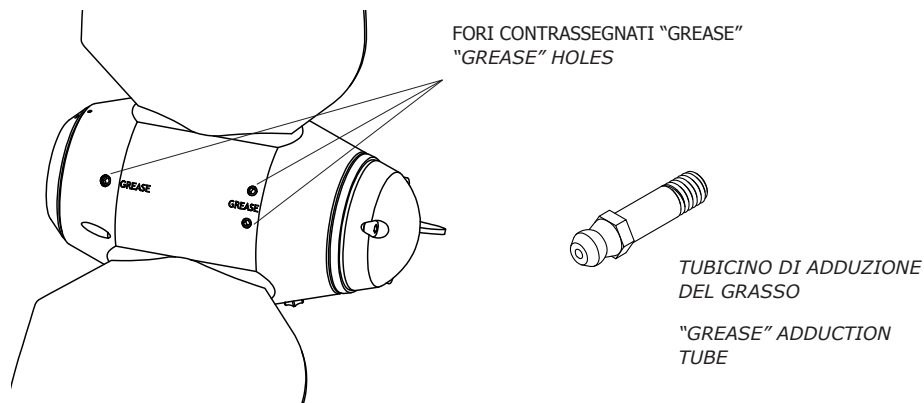

fig. 2
- d. Fill the propeller body completely with fluid grease through the designated holes marked "grease" (see fig. 2).